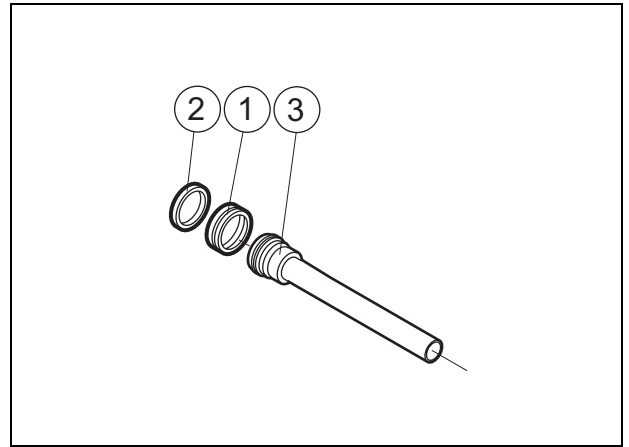
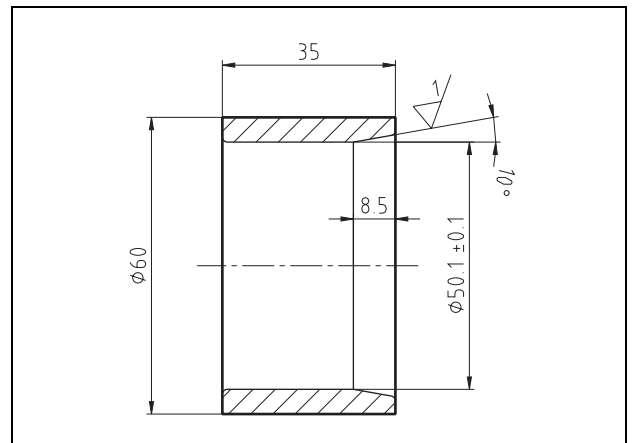

Fig. 47 Piston seals
Fig. 48 Assembly tool
1. The piston seal (1) is made of two parts. Separate the yellow and brown seals.
2. Apply oil to the piston (3) and the piston seal (1).
3. Assemble the piston seal. *See Fig. 47.*
- 1 Assemble the “yellow ring“ of the piston seal (1).
- 2 Assemble the “brown ring“ of the piston seal (1). Avoid stretching the seal too much.
- 3 Assemble the guide ring (2).
- 4 Press on the assembly tool (P/N 0703745) to compress the brown seal ring. Let it hold a couple of minutes. The assembly tool can be ordered from Hultdins on P/N 0703745. *See Fig. 48.*